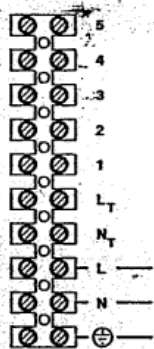

Fig. 31
7. Connect the (L), (N) and (E) wires to the 10-way terminal block (Fig. 31) and refit the cable clamp.